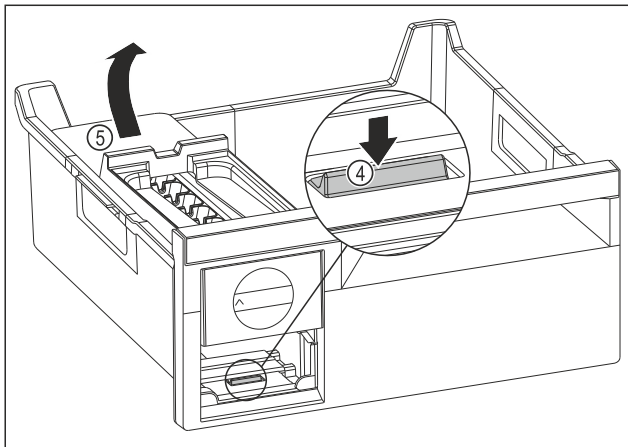

Fig. 136
- ▶ Removing the EasyTwist-Ice body: Use your finger to push the tab Fig. 136 (4) down and use your other hand to lift the EasyTwist-Ice body Fig. 136 (5) from behind at the same time.